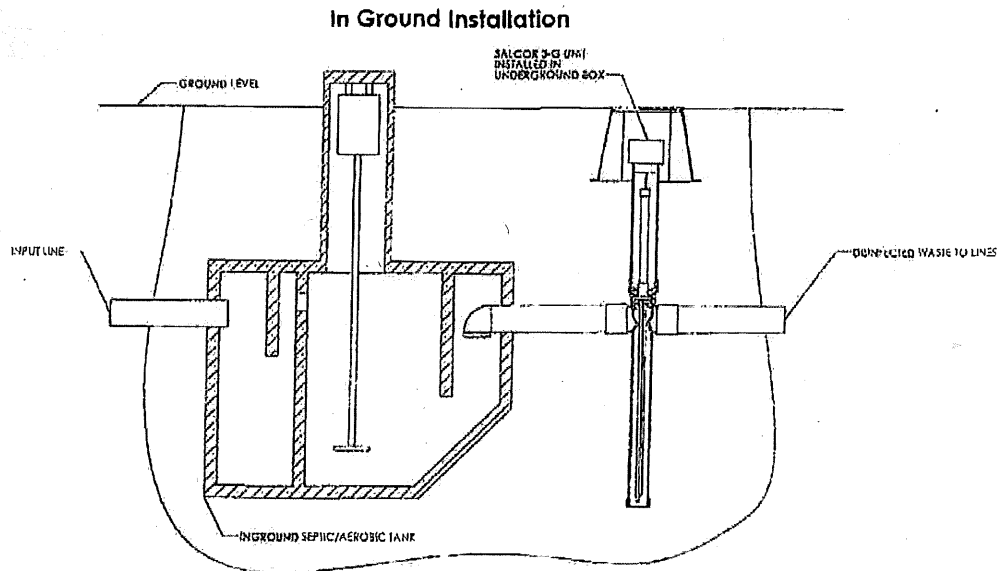

Figure 2
1. In the Ground Installation: Couple the 4-inch inlet pipe to the exit pipe of the pretreatment unit, and couple the 4-inch outlet pipe to the drain field pipe. See Figure 2 (page 8).